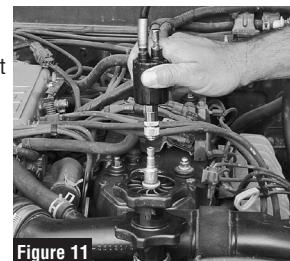

Figure 11
3. Position the female quick-disconnect fitting at the end of the pump's rubber hose over the male quick-disconnect fitting on the adapter and press down. Make sure the moveable sleeve on the quick-disconnect fitting snaps forward and that the coupling is fully engaged. See Figures 11 and 12.